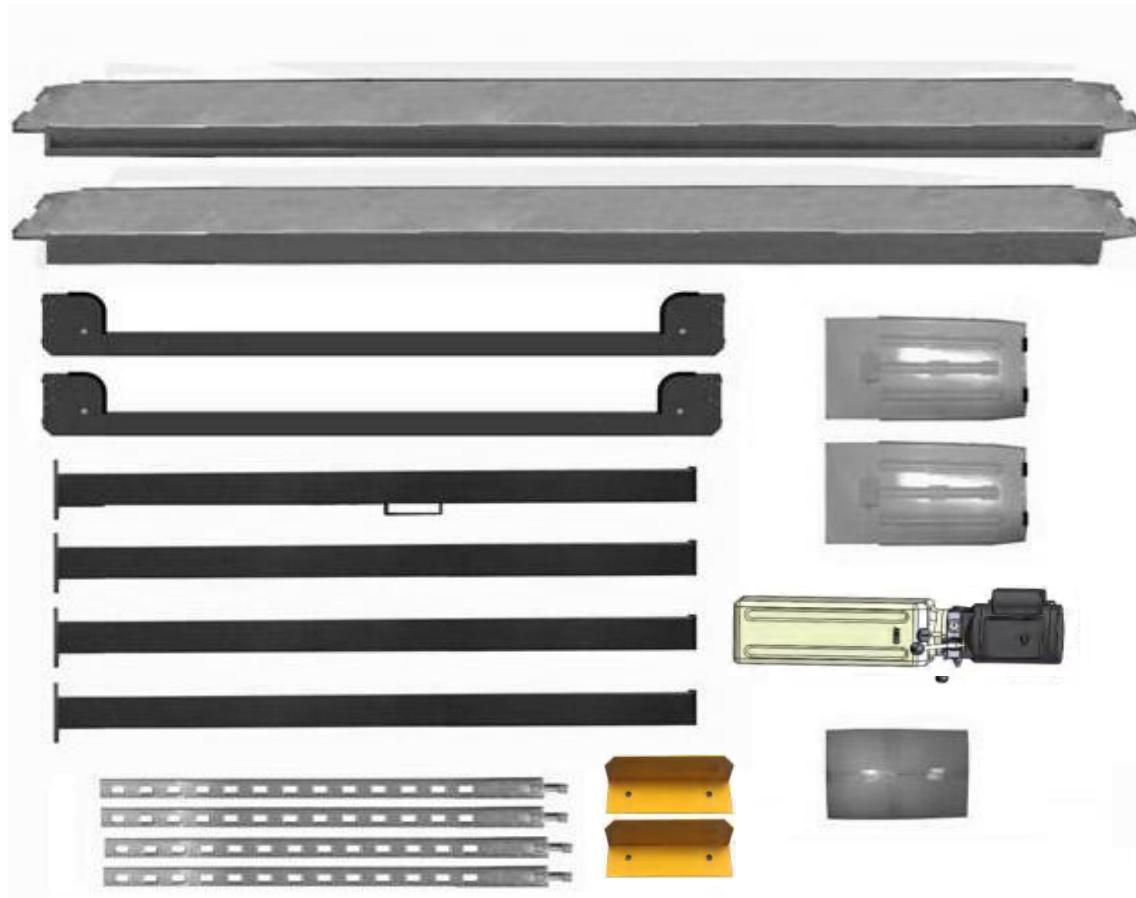

Fig. 8
4. Take off the drive-in ramps and columns (**See Fig. 8**)